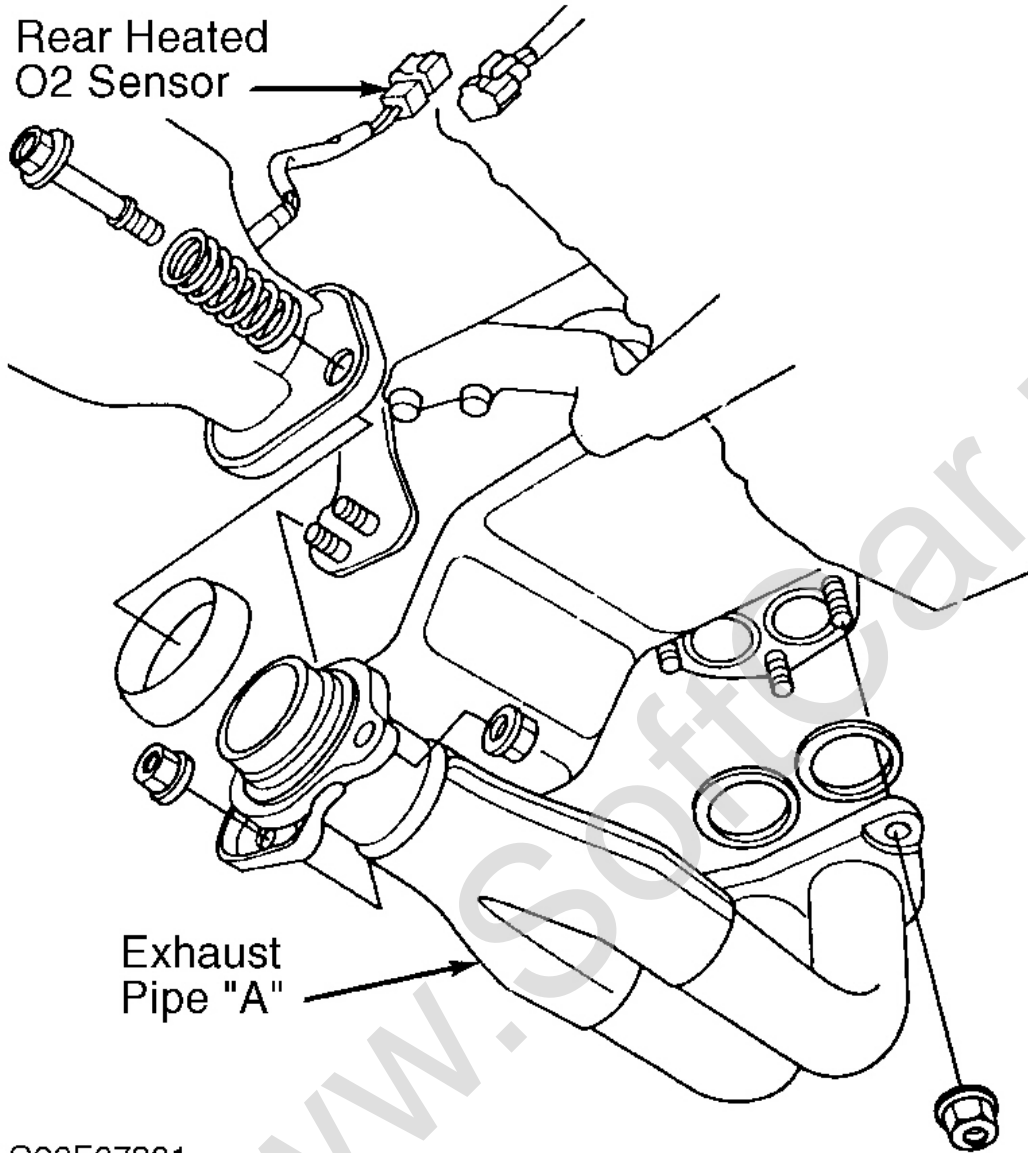

Fig. 4: Locating Exhaust System Components
6. On all models, remove radiator assembly. Remove A/C compressor, with hoses attached, and wire aside. Disconnect oxygen sensor and remove exhaust pipe "A". See **Fig. 4** . On manual transmission models, remove shift rod and extension rod. On automatic transmission models, remove shift cable. On all models, remove damper fork and disconnect suspension lower arm ball joints. Remove axle shafts.